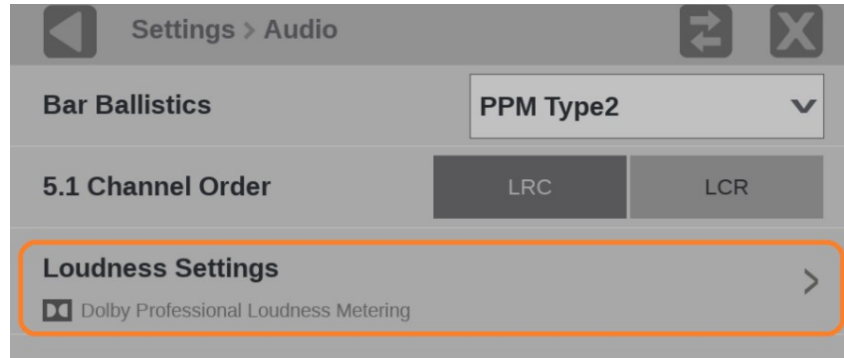

Figure 56: Audio submenu with the Loudness Settings marked
3. Select **Loudness Settings**. (See Figure 56.)